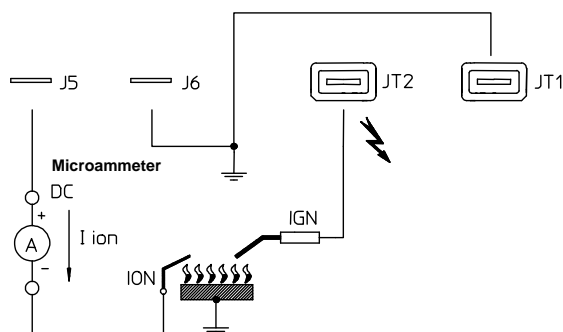
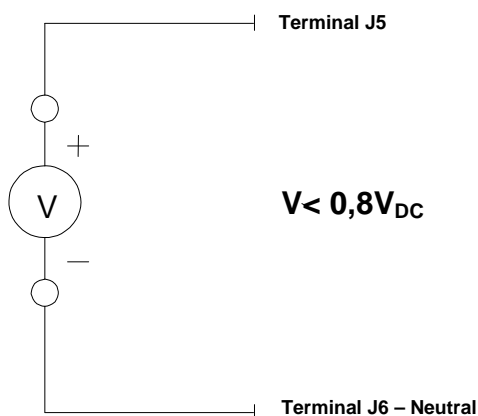

Fig. 7 – Flame signal measurement method in gas versions.
Fig. 8 – Flame signal measurement method in oil versions.
- The level of the flame signal is sufficient (see Fig. 7 and Fig. 8 for the measuring method to be adapted in case of controllers for gas and oil appliances respectively);